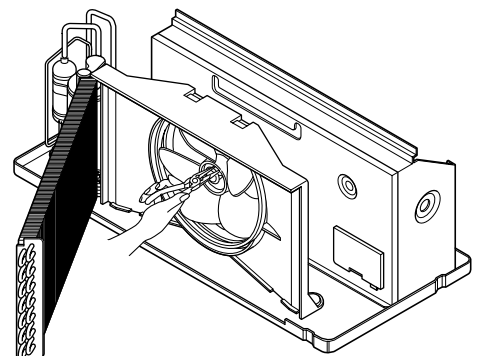

Figure 7
5. Remove the fan. (See Fig. 7)